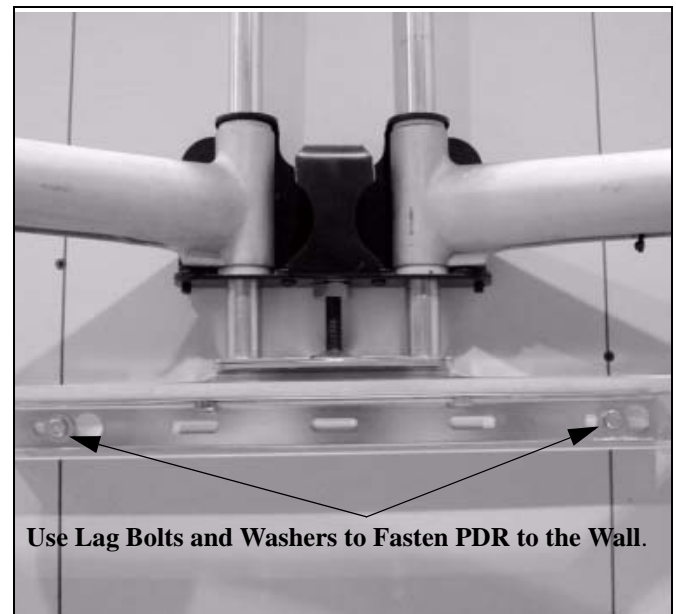

Figure 3: Mount Bottom Bracket on Wall
1. Mark the two mounting holes in the bottom mounting bracket (See figure 3). Make sure to align the holes parallel to the holes drilled in the top bracket.